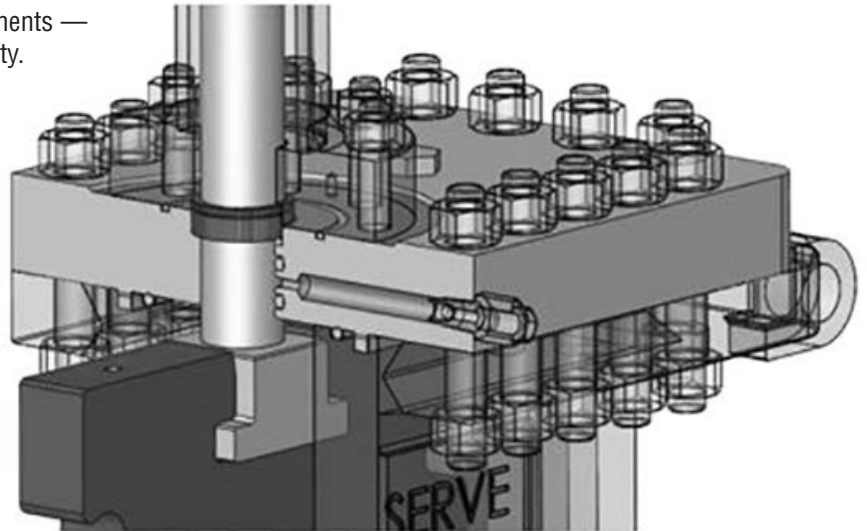

Figure 12: Blowout-proof stem design
- **Blowout-proof stem design [Figure 12]:**